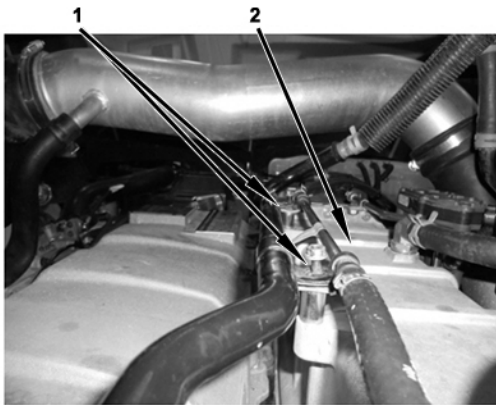

Figure 40 EGR Cooler
17. Install cab heater supply tube support brackets (1) to EGR cooler (2) and torque to 13 lb-ft (17.6 N•m) (Figure 40).